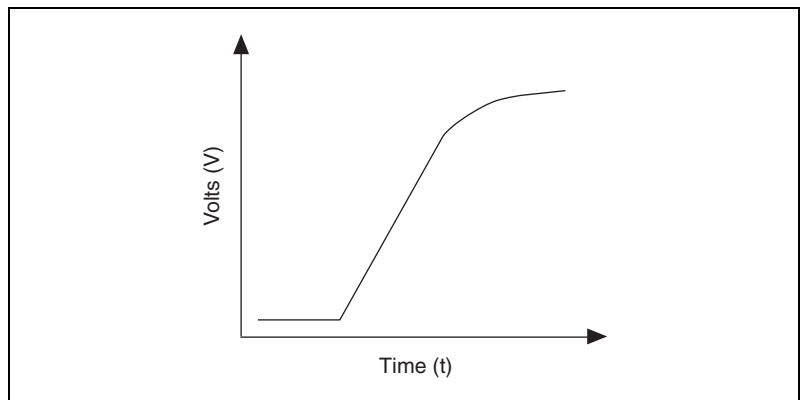

Figure 4-24. Lowpass Filtering of AO Signals
- **Protection for external circuitry**—Lowpass filters can smooth stairstep-like curves on AO signals. If the curves are not smoothed, the AO signals can be a hazard for some external circuitry connected to it. Figure 4-24 shows the output of a lowpass filter when a stairstep-like signal is the input.